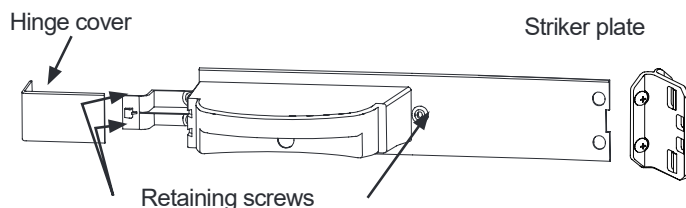

Figure. 11-10. —Cover, water dispenser.
4. Remove water dispenser cover. See Figure 11-10.